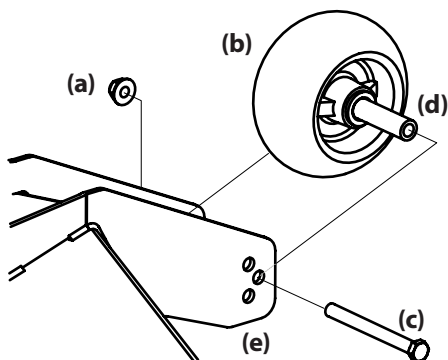

Figure 4-9
- Remove the lock nut (a) securing one of the front gauge wheel (b) hex screws (c) to the deck. Remove the front gauge wheel (b), hex screw (c) and spacer (d). See Figure 4-9.